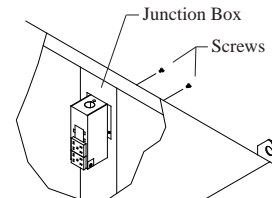

Fig. 4
- **Wiring.** The electrical junction box is located in the upper inside of the divider channel. Remove the two screws and pull the box out from the channel to access wiring (Fig. 4). Connect the pump supply wiring to the pump receptacles (See the pump wiring diagrams on the next page). Connect the motor supply wiring directly to the blower motor.